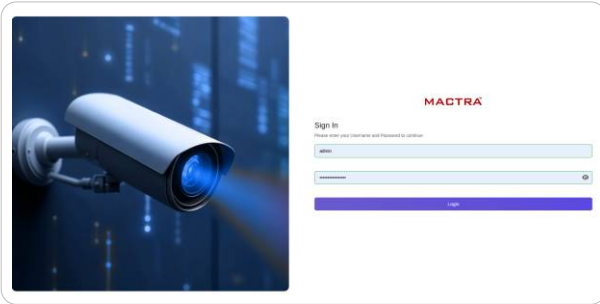

Figure 1: Default Login Screen
- Please note that the **username** is case-sensitive, as shown in **Figure 1**.